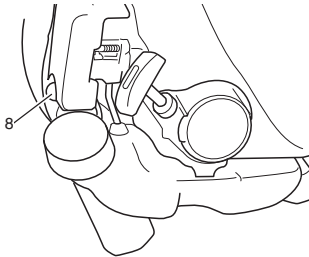

Fig. 5
* Push priming bulb (8) about ten times so that fuel flows into carburetor. (Fig. 5)